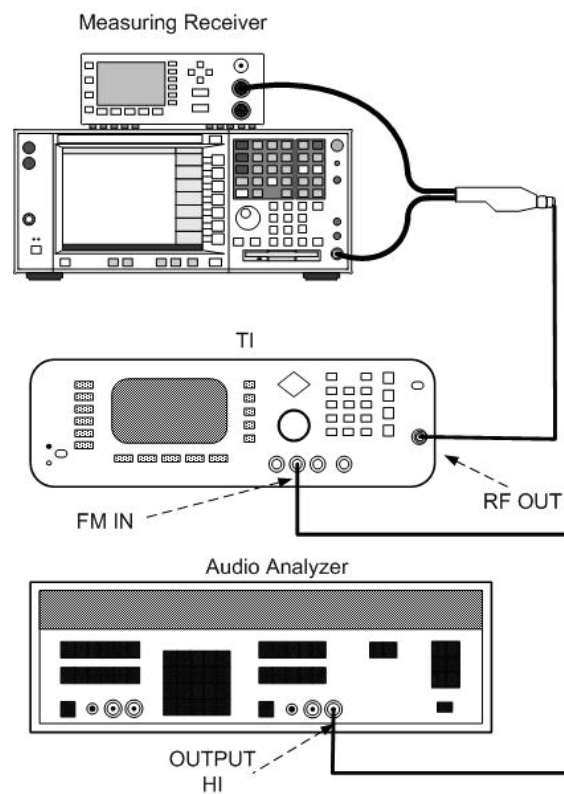

Figure 6. Frequency modulation hook-up.
(1) Connect equipment as shown in figure 6 below.